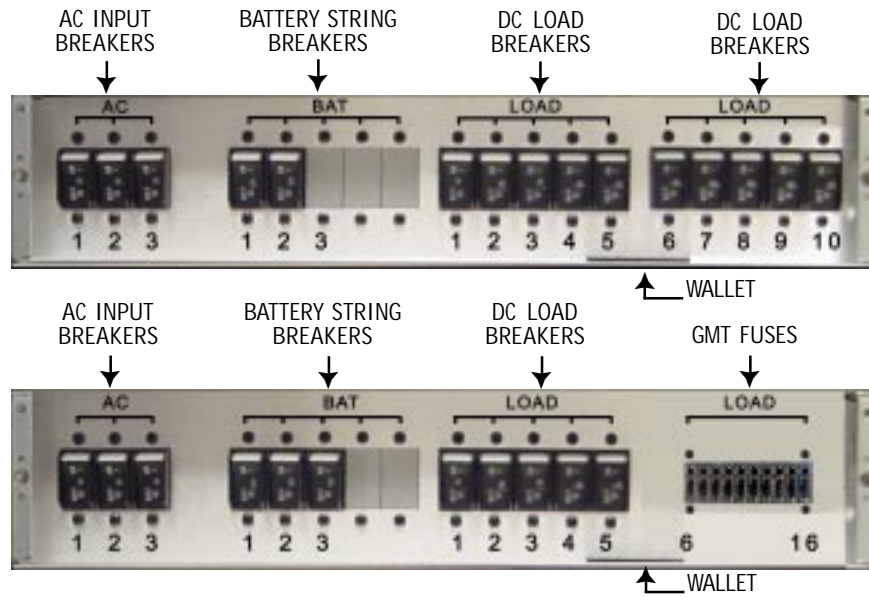
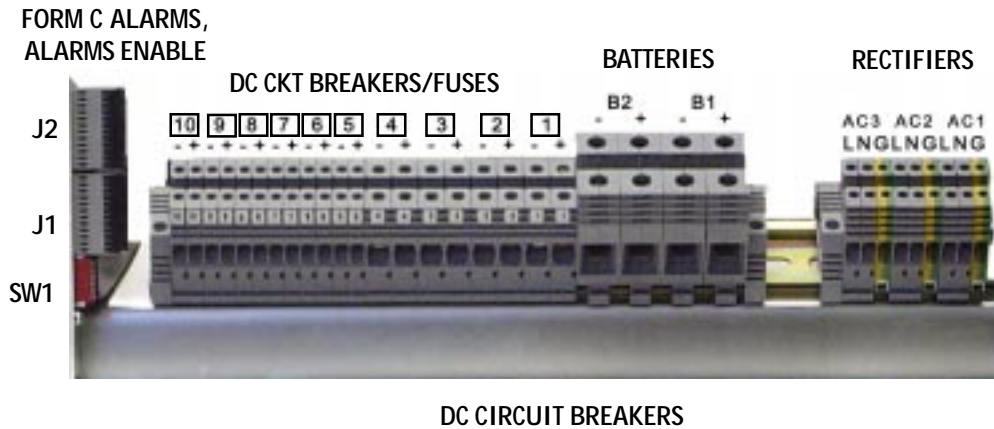

Figure 3. The Power Distribution Section
Figure 7. Gravitas X150 Connection Terminals
- 6.1 Figure 3 shows the two versions of the Power Distribution section. On the left the section consists of the three optional 20-ampere AC circuit breakers, one for each rectifier module. Next, to the right are up to three (two is standard, a third optional) 100-ampere battery string circuit breakers. Farther to the right is a set of five DC circuit breakers. The first four of these can be up to 50-ampere capacity; the fifth one can be up to 20-ampere capacity. The second set of five breakers at the right are all up to 20-amperes capacity. Alternatively, the second set of breakers can be replaced by 10 GMT fuses which can range from 1/2A up to 12A each. Maximum total current for the 10 fused loads is 80 amperes.
- 12.2 Input AC Power Connection.** See Figure 7. An unplugged 3-wire AC power line should be connected into the slots of the DIN-Rail terminal blocks. The terminal block screws just above the connection slots should be firmly screwed against the AC input cables to eliminate any contact resistance. The line, neutral and ground connections should be carefully followed when making the AC connections. The AC line cable should be sized to safely carry 22 amperes AC.
See Figures 3 and 7. Connect load wires to each set of output terminals, one at a time. Note that the front panel breaker and fuse numbers directly correspond to the output terminal numbers. Be sure to connect the polarities correctly as shown in Figure 7.
- 12.6 Connection to Battery.** With AC input unplugged, remove the three rectifier modules from the system chassis. Make sure all load circuit breakers are in the OFF position and/or all GMT fuses removed. Set the battery circuit breaker to the OFF position. Carefully connect the battery cables to the DIN-Rail battery terminals shown in Figure 7 while observing the correct polarity.